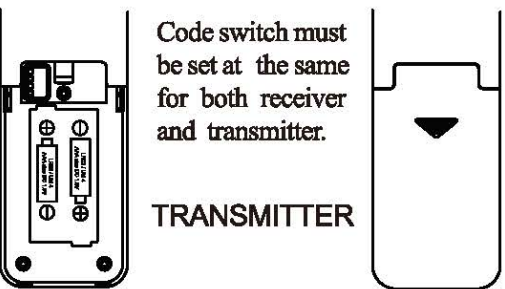
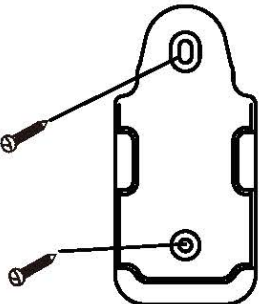

Fig. 3
Fig. 4
- 5.To change the batteries is to open the battery housing cover by sliding out the cover downward to the arrow shown direction while pressing down the cover with thumb. (Fig. 3) Holder for transmitter: if desired, install onto the wall with screws. (Fig. 4)